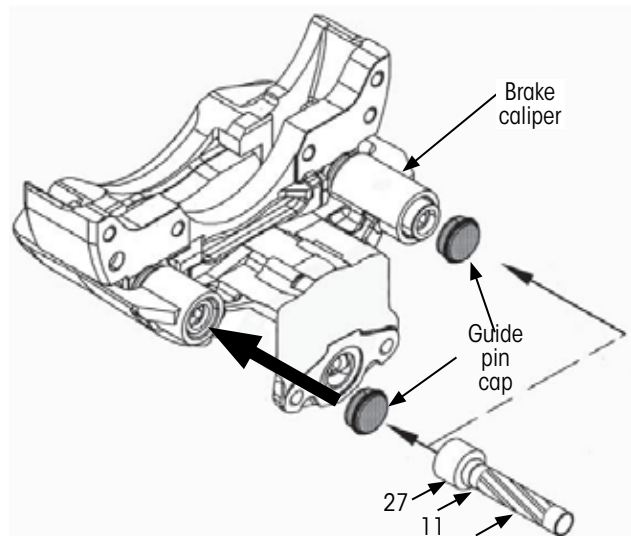

Figure 69: Guide pin cap installation
8. **Insert** two new guide pin caps into the bores of the brake caliper (Figure 69).
- Assemble and use tool numbers 10, 11 and 27 (Appendix B) to **press** the guide pin cap down to the stop position (Figure 69 and Figure 70).